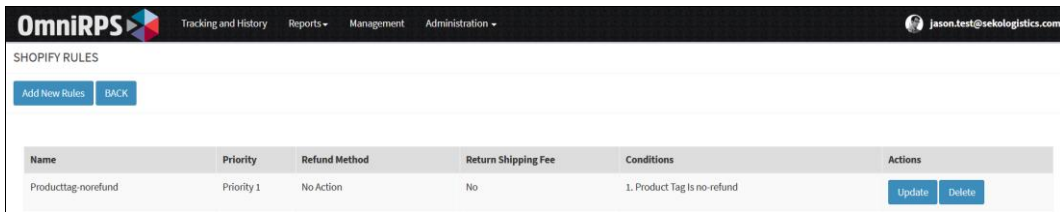

Figure 5.14 Shopify Rules Page
- Click on the blue 'Rules' button. You will be directed to the 'Shopify Rules' page (Figure 5.14). If you already have rules set up, you will see them on this page. You may either 'Update' your current